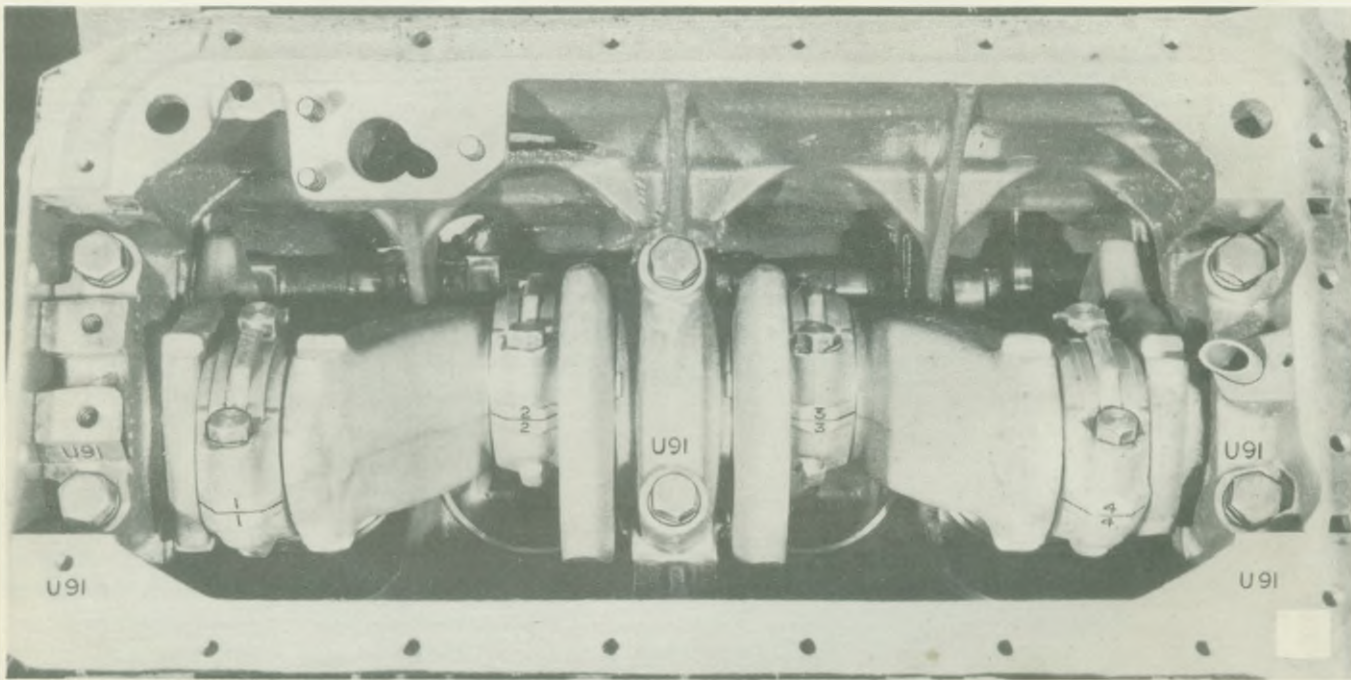

Fig. 42. Showing bearing cap and cylinder block markings
3. Drop the crankshaft into position on the bearings, threading the two bottom halves of the thrust washers into position on each side of the centre main bearing housing. Note location of bearing cap numbers in relation to those on cylinder block flange as shown in Fig. 42.